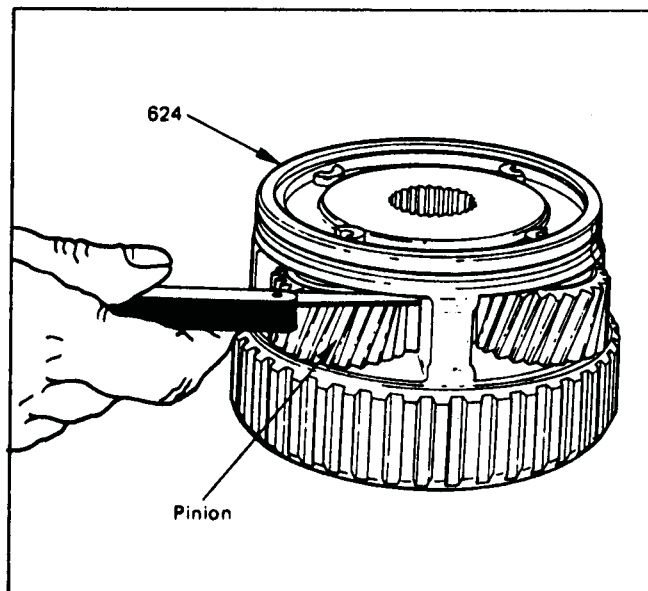

Figure 68
15. Check overdrive carrier pinion end-play with feeler gage (Figure 68). Clearance should be .009" - .025".